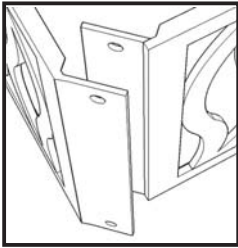
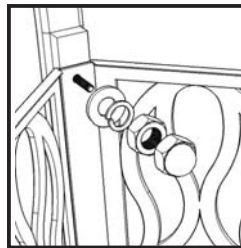

Figure 1
Figure 2
Assemble Legs (B) and Side Frames (C) with Flat Washers, Spring Washers, Nuts and Nut Caps. (See Figure 1 and Figure 2)